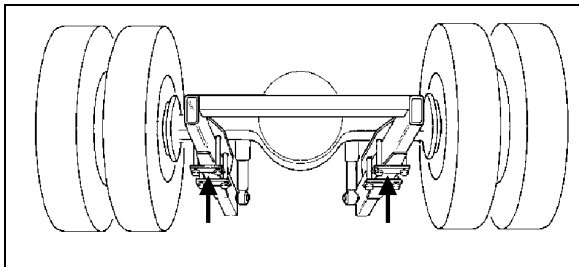

FIGURE 5: JACKING POINTS ON DRIVE AXLE 11005
- FIGURE 5: JACKING POINTS ON DRIVE AXLE 4
8. Install jacks under the axle jacking points to support the axle weight (refer to figure 5).